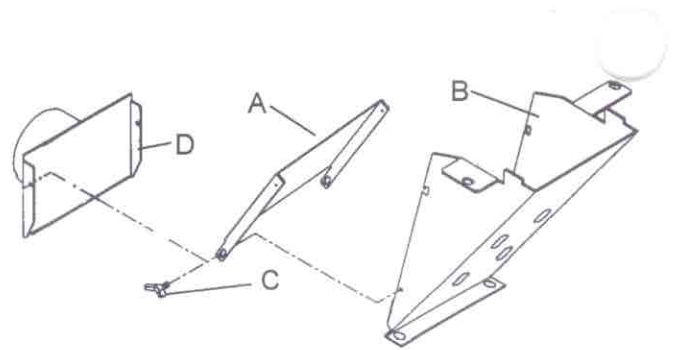

Fig. 8
1. Install the dust guard plate (A, Fig. 8) to the motor plate (B, Fig. 8) by inserting the pins on the dust plate into the grooves on the motor plate.
If the jointer is to be used without a dust collector, secure the dust guard plate (A, Fig. 8) to the motor plate (B, Fig. 8) with two wing screws (C, Fig. 8). Do not install the adapter plate (D, Fig. 8) if a dust collector is not used. Installing the adapter plate without a dust collector may cause saw dust to back up and clog the jointer.
If the jointer is to be used with a dust collector, match the holes in the adapter plate (D, Fig. 8) with the holes in the dust guard plate (A, Fig. 8) and secure to the motor plate with two wing screws (C, Fig. 8).